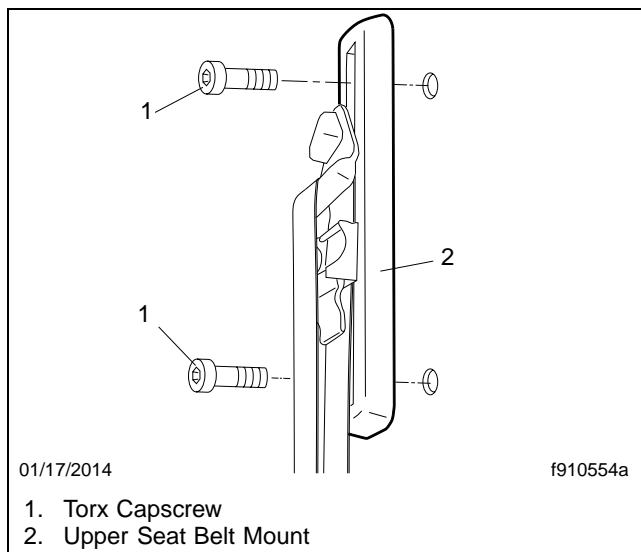

Fig. 17, Upper Seat Belt Mount
- 7.3 Remove the two screws that attach the upper seat belt mount to the B-pillar panel and the cab wall. See **Fig. 17**.